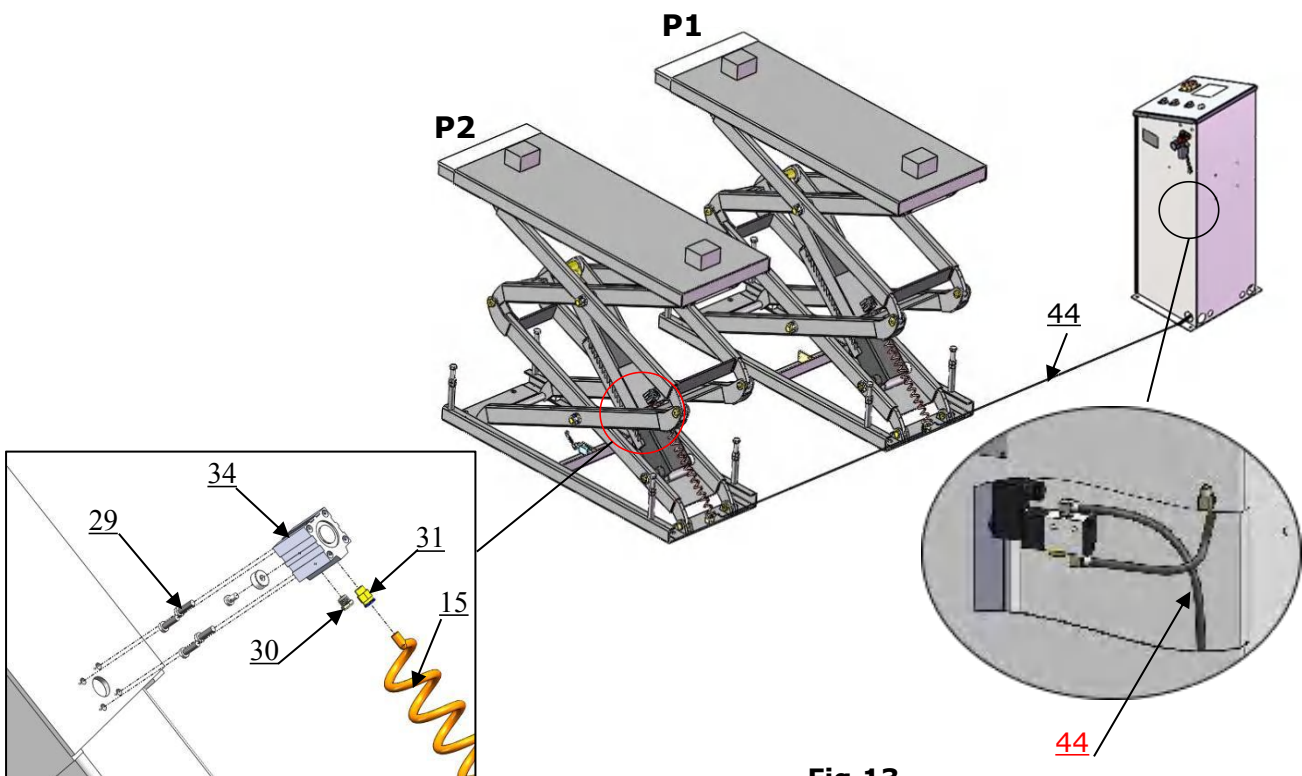

Fig.13
3. Connecting the air line (See Fig. 13)